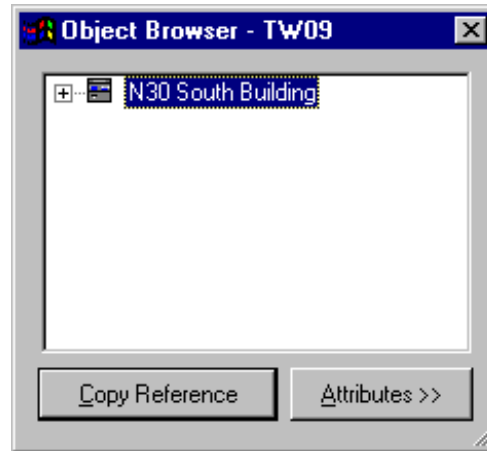

Figure 6-5: Object Browser
1. With the M-View screen open (Figure 6-4), click the Browser . . . button. The Object Browser appears (Figure 6-5).